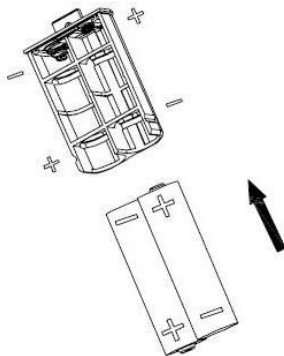

Figure 3
3. Insert 2xAA alkaline battery in the battery compartment. (figure 3) Push the battery compartment into the rain collector unit.